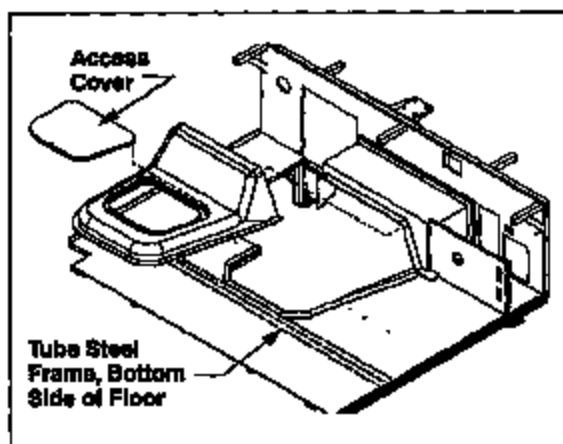

Figure 1
3. Remove the screws from the access cover built into the floor between the driver and passenger seats and lift out the cover. See Figures 1 and 2. The entire engine cover does not need to be removed.
3. Use two (2) insulated loop clamps #073725 to support the leveler hoses. Attach the insulated loop clamps with #8 X 1" Hex Head tec screws #004407 to the tube steel frame directly against the bottom side of the floor. Position the clamps to give the leveler hoses as much clearance as possible from hot engine components. See Figures 1 and 2.